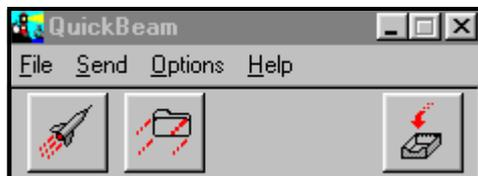

Figure 51: QuickBeam Window
- Click on the desired file, and drag it onto the rocket button in the QuickBeam window, as shown in Figure 51 below, or: